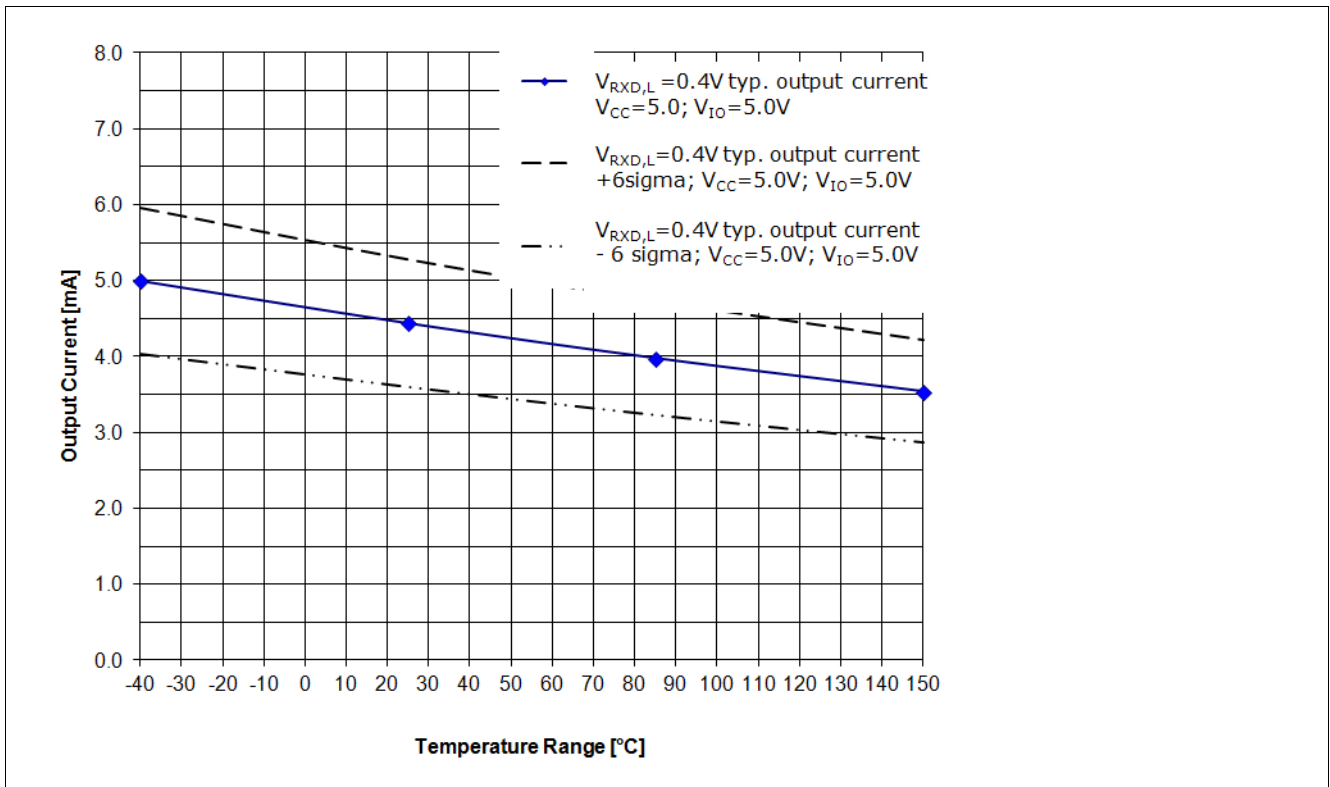
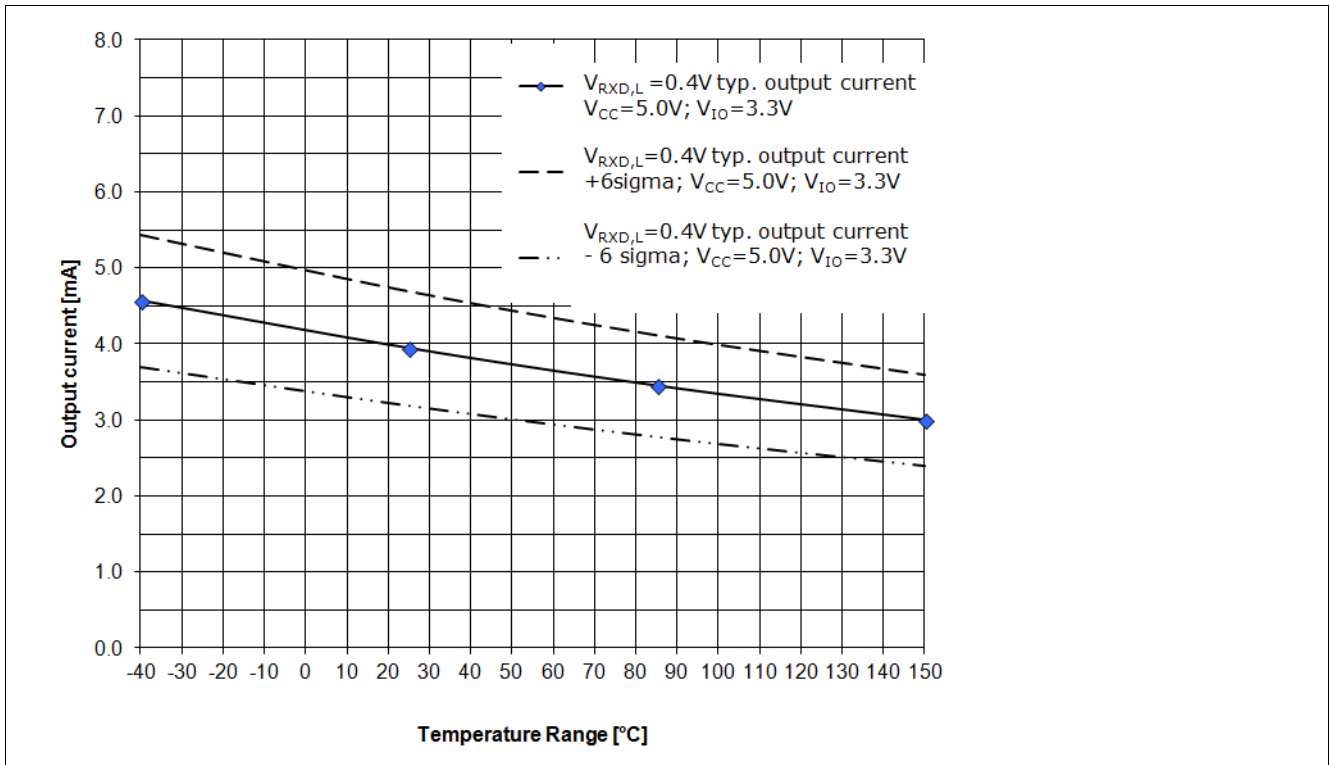

Figure 13 RxD Output driver capability for a logical “Low” signal $V_{\text{RxD,H}}=0.4\text{ V}$, $V_{\text{CC}}=5.0\text{ V}$, $V_{\text{IO}}=5.0\text{ V}$ ¹⁾
Figure 14 RxD Output driver capability for a logical “Low” signal $V_{RxD,H}=0.4\text{ V}$, $V_{CC}=5.0\text{ V}$, $V_{IO}=3.3\text{ V}^1)$
The diagram in Figure 13 and the diagram in Figure 14 show the current capability of the RxD output pin depended on the chip temperature T_J . Figure 13 shows the current capability of the RxD output pin at a V_{IO} power supply of 5.0 V and Figure 14 shows the current capability of the RxD output pin at a V_{IO} power supply of 3.3 V.
- The curve “VRxD,H = 0.4 V; **typ. output current**; VCC = 5.0 V; VIO =5.0 V;” displays the typical output current at the RxD output pin of the TLE8250GVIO (see Figure 13).
- The curve “VRxD,H = 0.4 V; **typ. output current + 6 sigma**; VCC = 5.0 V; VIO =5.0 V;” displays the expected maximum value of the output current at the RxD output pin (see Figure 13).
- The curve “VRxD,H = 0.4 V; **typ. output current - 6 sigma**; VCC = 5.0 V; VIO =5.0 V;” displays the expected minimum value of the output current at the RxD output pin (see Figure 13).
- The curve “VRxD,H = 0.4 V; **typ. output current**; VCC = 5.0 V; VIO =3.3 V;” displays the typical output current at the RxD output pin of the TLE8250GVIO (see Figure 14).
- The curve “VRxD,H = 0.4 V; **typ. output current + 6 sigma**; VCC = 5.0 V; VIO =3.3 V;” displays the expected maximum value of the output current at the RxD output pin (see Figure 14).
- The curve “VRxD,H = 0.4 V; **typ. output current - 6 sigma**; VCC = 5.0 V; VIO =3.3 V;” displays the expected minimum value of the output current at the RxD output pin (see Figure 14).